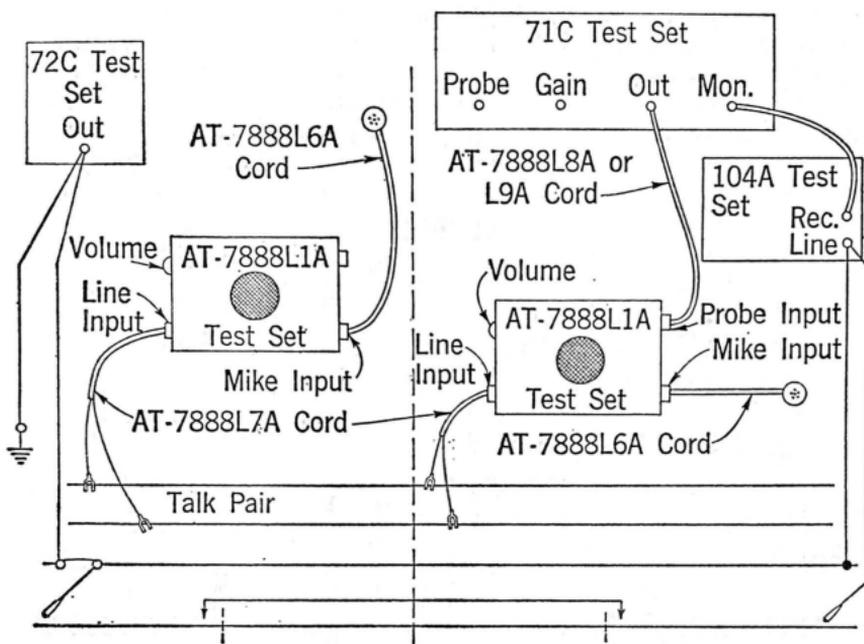

Fig. 12
4.10 Cable Section Transfer: The method of using the speaker sets in making a cable section transfer is shown in Fig. 12. The speaker sets replace battery talking sets and are used for monitoring the test signals. The volume controls should